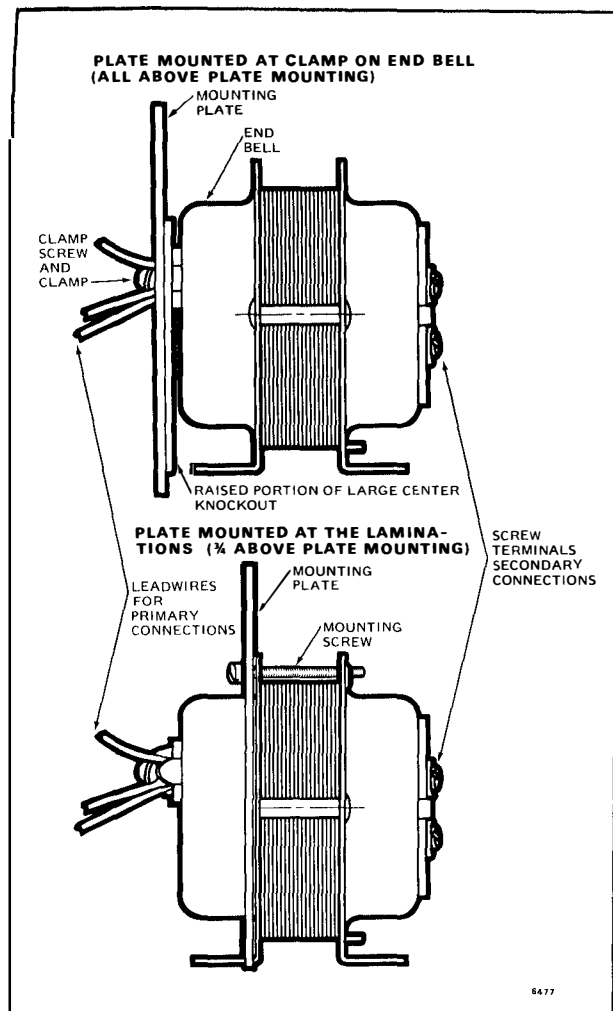

FIG. 18—PLATE MAY BE MOUNTED TO TRANSFORMER IN ONE OF TWO POSITIONS (AT72D shown).
The plate may be mounted to transformer in one of two positions: (1) at clamp on primary end bell (transformer all above plate), or (2) at the laminations (transformer 3/4 above plate). See Fig. 18.